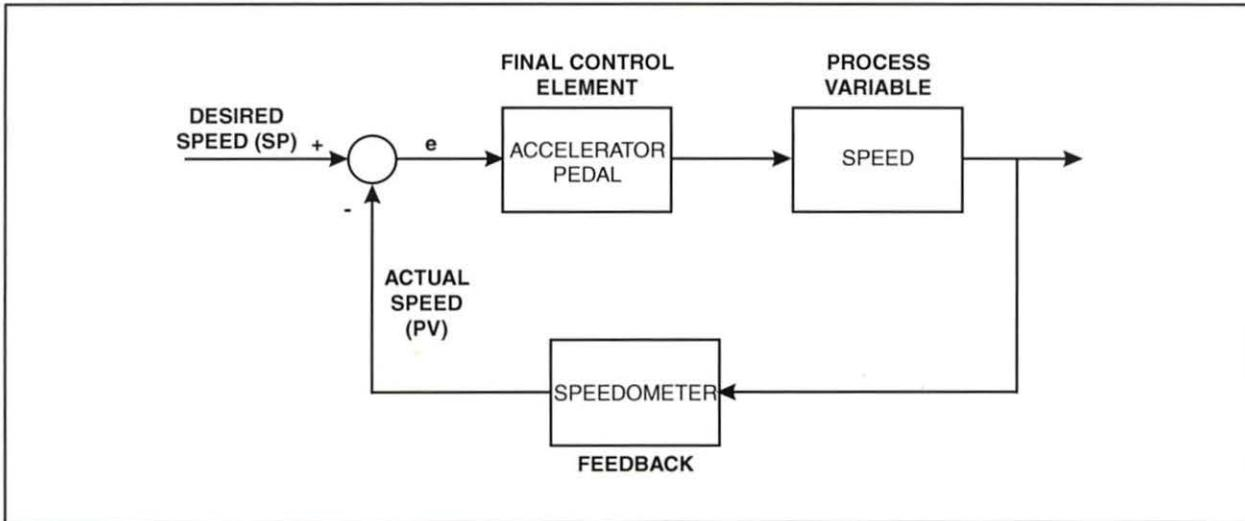

Figure 11. Addition of the Feedback Loop
- E. Complete the block diagram by adding the feedback loop, as figure 11 shows.
- F. Compare your final block diagram to the one in figure 11. Your block diagram should be very similar.